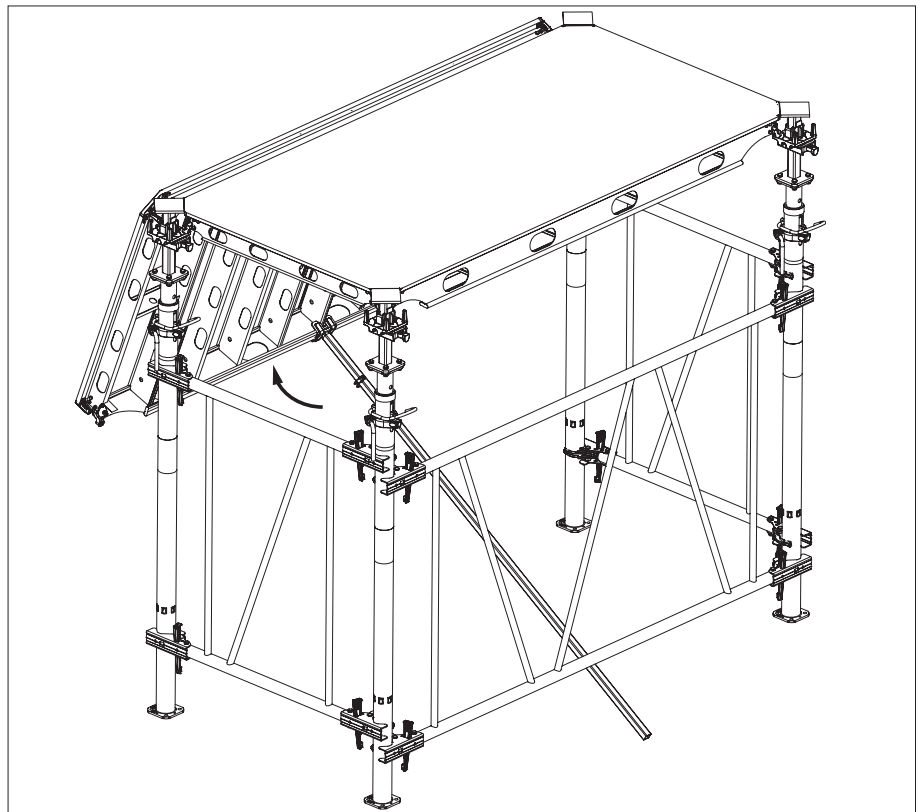

Fig. A5.07
2. Using the shuttering aid, swing the panel up supporting it temporarily until the next two props are installed. (Fig. A5.07)